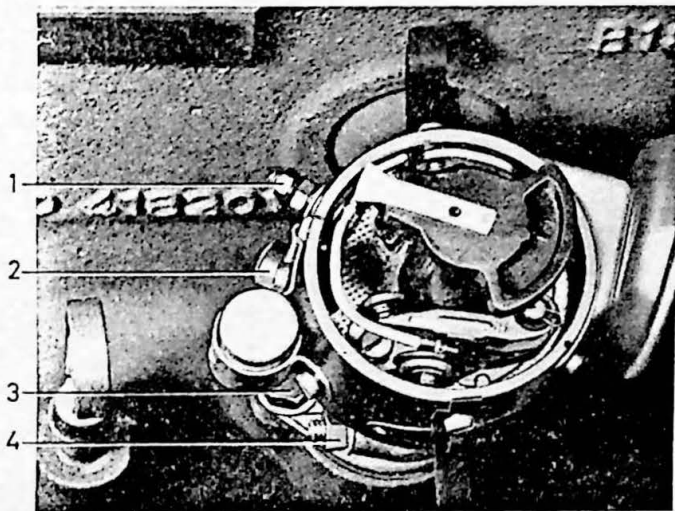

Fig. 10-52. Distributor, fitted
3. Disconnect the primary lead 1, Fig. 10-52.
5. Unscrew the screw (4, Fig. 10-52) on the control arm and lift up the distributor.